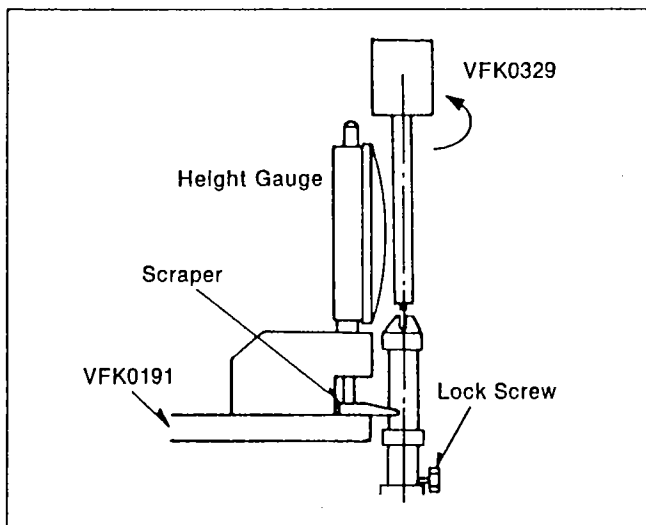

Figure M4
3. Lower 2 tape guide posts (P2 and P3) by turning the Post Adjustment screwdriver so that the condition of height becomes as shown in Figure M4. That is, the lower edge of Tape guide should be lower than surface of Adjustment Plate.